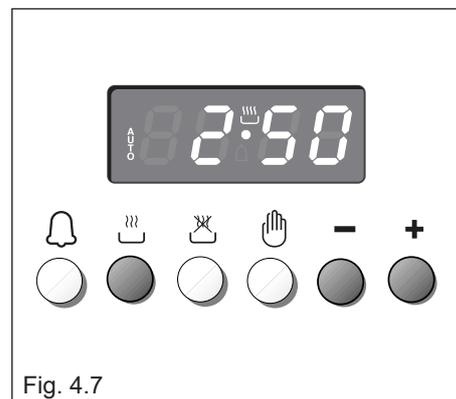

Fig. 4.7
1. Set the length of the cooking time by pushing the  button and the  $+$  button to advance, or  $-$  to go backwards if you have passed the desired time (fig. 4.7).